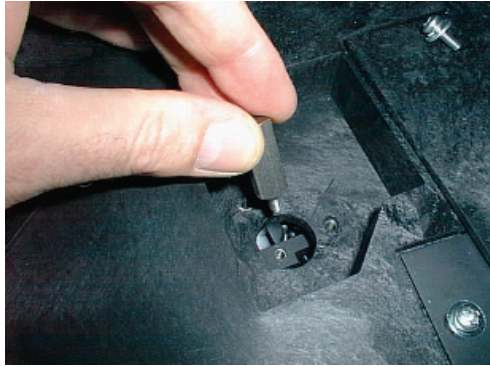

Figure 79 Inserting the shipping clamp screws
4. Lift the metal cover vertically away from the LS 45, as shown in Figure 79, and store it securely.